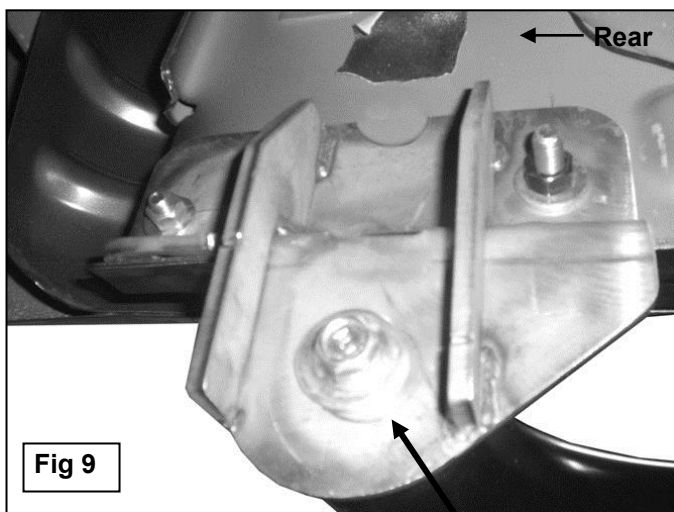

Fig 9
8. Attach the Sidebar to the Mounting Brackets using the included (2) 1/2" x 2" Hex Bolts, (2) 1/2" Flat Washers, and (2) 1/2" Lock Washers, (Figure 9). Do not tighten hardware at this time.